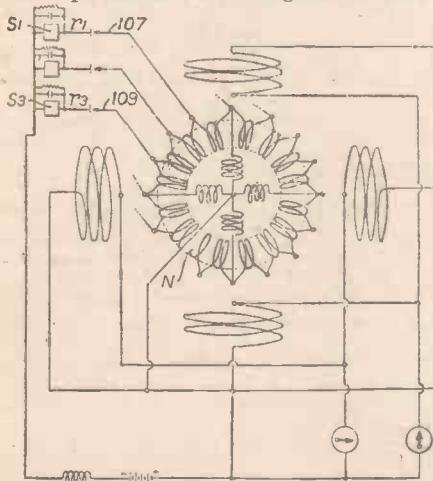

Fig. 2.
**TELEVISION.** Toulon, P. No. 497,367. A group S of separate contiguous elements S1 . . . S13 (Fig. 2) in a surface or line is permanently connected to a common transmitting channel 91, and scanning is effected by a local static distributor 87. The distributor supplies successive impulses to coils 84 . . . 86 which bring tuned circuits S0 . . . S2, associated with the elements, to resonance in succession. Alternatively the distributor applies a voltage to the successive individual leads to the elements, which renders them permeable to the signals in turn.